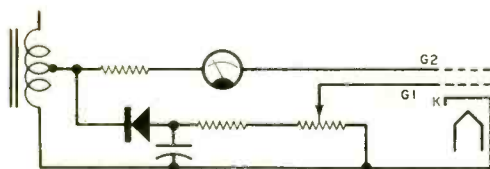

Fig. 3. Grid control is determined by the amount of negative voltage needed on G1 to obtain cutoff.
**Grid Control.** The grid control test is similar to the emission test except that instead of having a zero grid bias as used in the emission test, a negative voltage is applied to the control grid as shown in Fig. 3. As the control grid voltage is made more negative, less  $G_2$  current flows. When the control grid ( $G_1$ ) voltage is made sufficiently negative, no current will flow and the tube will be cut off.